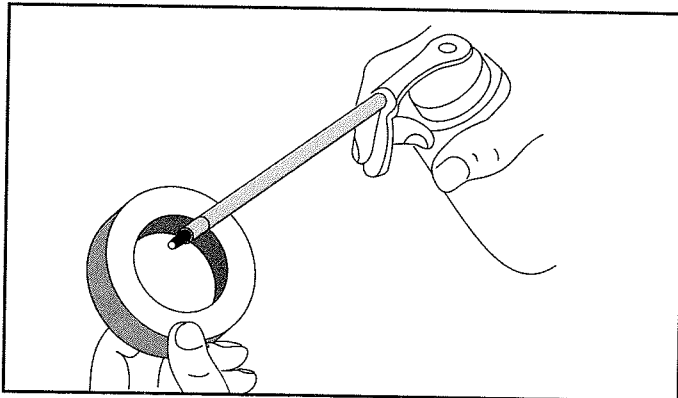

Fig. 26
4. Apply enough clean oil to lightly coat the filter (Fig. 26).